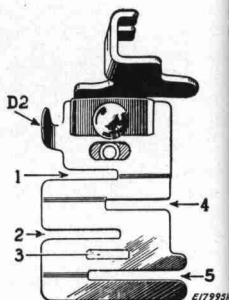

FIG. 51
The distance from the line of stitching to the edge of the material in the slots is regulated by moving the lug **D2**, **Fig. 51** to the right or left.
- (1) Insert one of the laces in slot **1** of the edge-stitcher and the other in slot **4**, **Fig. 51**.
- (2) Adjust the lug **D2** until the edges to be joined are caught by the stitching.
- (3) Slightly overlap the edges of the lace while stitching to keep them against the ends of the slots.
- (4) Loosen both thread tensions to avoid puckering of fine lace.
- (1) Fold the edge of the material to which the lace or ribbon is to be sewn and insert it in the slot 1, **Fig. 51** of the edge-stitcher.
- (2) Insert the lace or ribbon in the slot 4 of the edge-stitcher and proceed to sew.
- (3) Cut away the surplus folded material close to the stitching.
- (1) Cut the piping bias and twice the width of the slot **3** so that it can be folded once.
- (2) Insert the piping with its folded edge to the left in slot **3** and the edge to be piped in slot **4**, **Fig. 51**.
- (1) Place the garment under the edge-stitcher and the tape in slot **1** or **4**, **Fig. 51**.
- (1) A wide hem may be stitched evenly on sheets, pillow slips, etc., with the edge-stitcher after the hem has been measured and the edge turned.
- (2) Insert the edge in slot 5, Fig. 51, and adjust the lug D2 to stitch as close to the edge as desired.
- (1) To make a uniform width French seam, insert the two edges to be joined, wrong sides together, in slot 1 or 2, Fig. 51 and stitch close to the edge.
- (2) Fold both right sides together and insert the back of the seam in the slot 1 and stitch, allowing just enough margin to conceal the raw edges.
- (1) Fold and crease the material for the desired width of tuck.
- (2) For succeeding tucks, fold the material the desired distance from the previous tuck, running the fold lengthwise over a straight edge, then crease the folds.
- (3) Insert the creased folds in the slot **1, Fig. 51** and adjust the edge-stitcher to the right or left for the desired width of tuck. Use a light tension, short stitch and fine thread and needle.